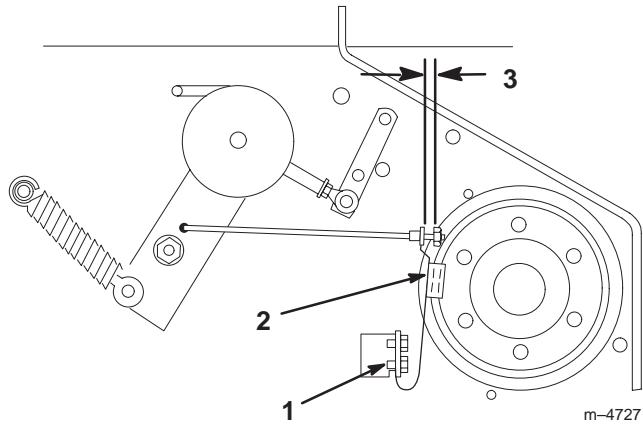

Figure 49
2. If necessary, adjust the spring mounting bolts so that the blade brake pad rubs against the pulley edges (Fig. 49).
3. Adjust the nut at the end of the blade brake rod until there is $1/8"$ (3mm)– $3/16"$ (5mm) between the nut and spacer (Fig. 49).